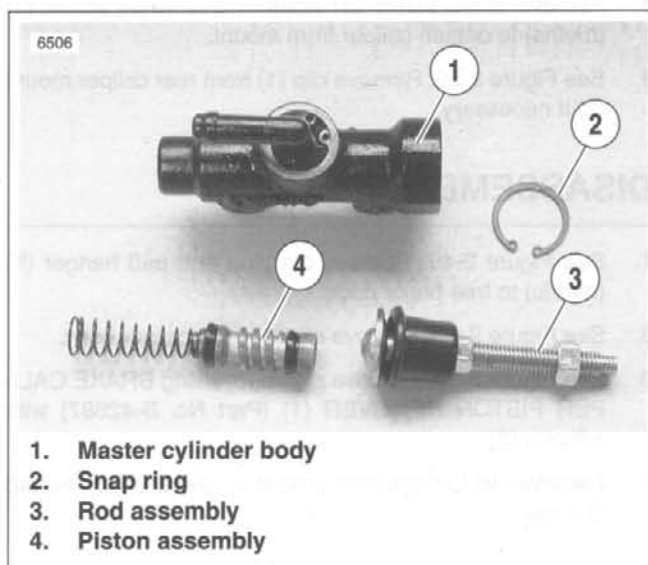

Figure 2-48. Master Cylinder Internals
1. See Figure 2-48. Slide rubber boot on rod assembly (3) away from master cylinder body (1).
2. Depress rod assembly (3) and remove internal snap ring (2). Discard snap ring.
3. Remove piston assembly (4) from master cylinder body.
1. See Figure 2-48. Insert piston assembly (4), spring first, into master cylinder.
2. Place round side of rod assembly (3) over piston. Depress piston into master cylinder body (1) and secure with a **new** snap ring (2).
3. Tuck rubber boot on rod assembly (3) into master cylinder body (1).